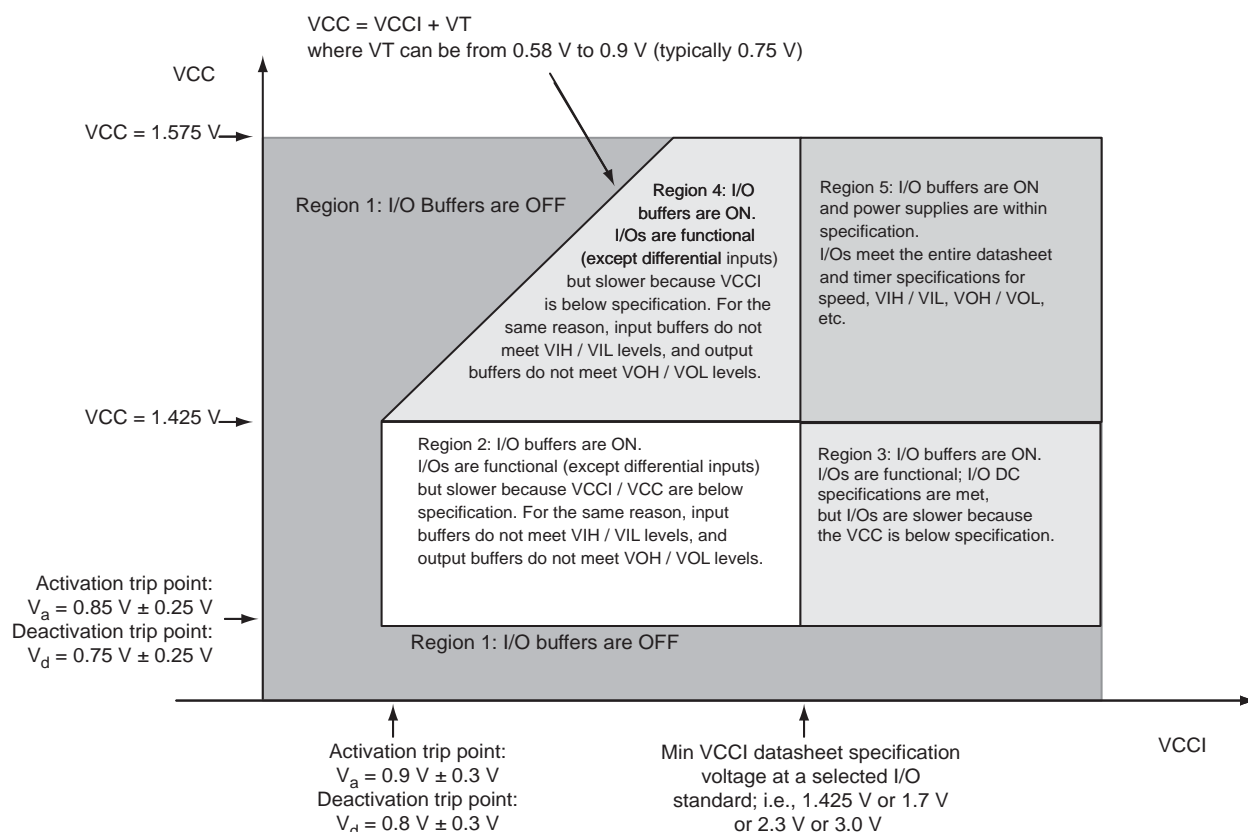
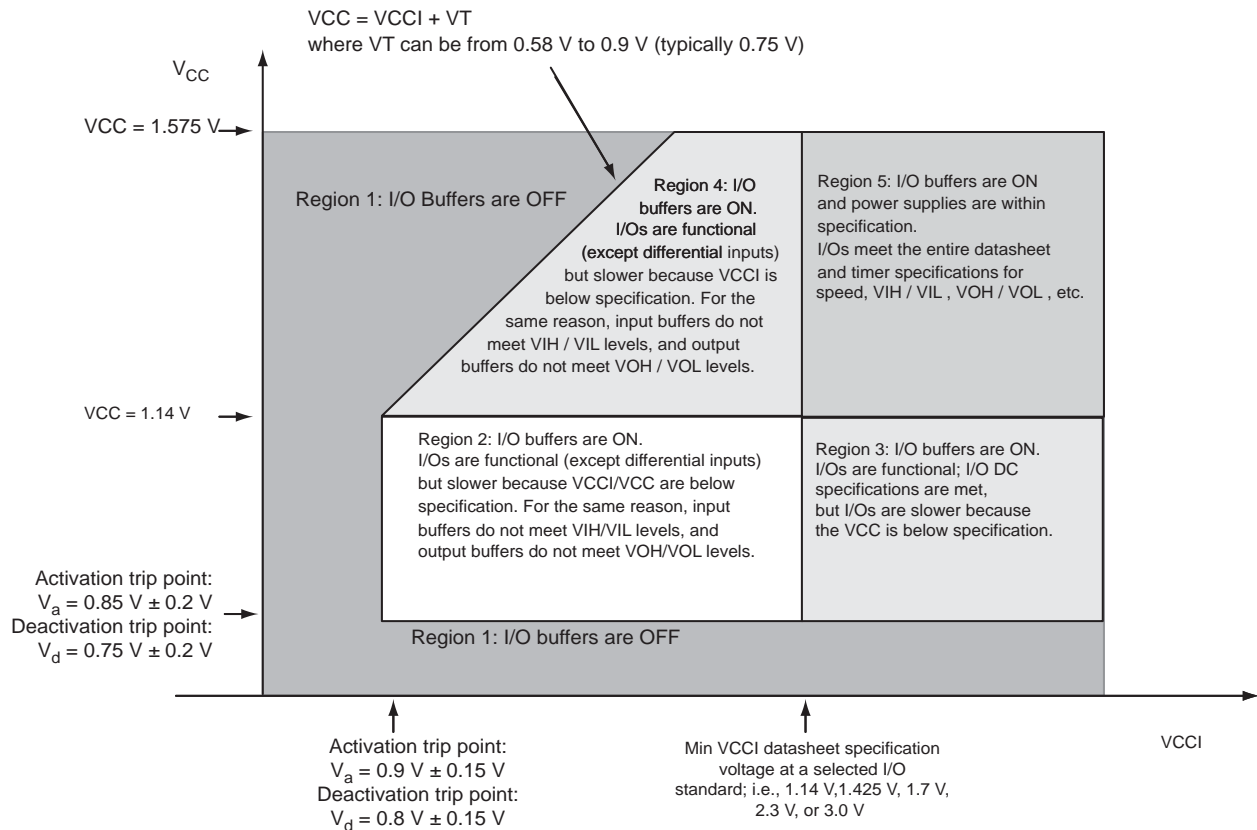

Figure 2-1 • V5 – I/O State as a Function of VCCI and VCC Voltage Levels
Figure 2-2 • V2 Devices – I/O State as a Function of VCCI and VCC Voltage Levels
Sophisticated power-up management circuitry is designed into every IGLOOe device. These circuits ensure easy transition from the powered-off state to the powered-up state of the device. The many different supplies can power up in any sequence with minimized current spikes or surges. In addition, the I/O will be in a known state through the power-up sequence. The basic principle is shown in Figure 2-1 on page 2-4 and Figure 2-2 on page 2-5.
1. VCC and VCCI are above the minimum specified trip points (Figure 2-1 on page 2-4 and Figure 2-2 on page 2-5).
Actel recommends using monotonic power supplies or voltage regulators to ensure proper powerup behavior. Power ramp-up should be monotonic at least until VCC and VCCPLX exceed brownout activation levels. The VCC activation level is specified as 1.1 V worst-case (see Figure 2-1 and Figure 2-2 on page 2-5 for more details).